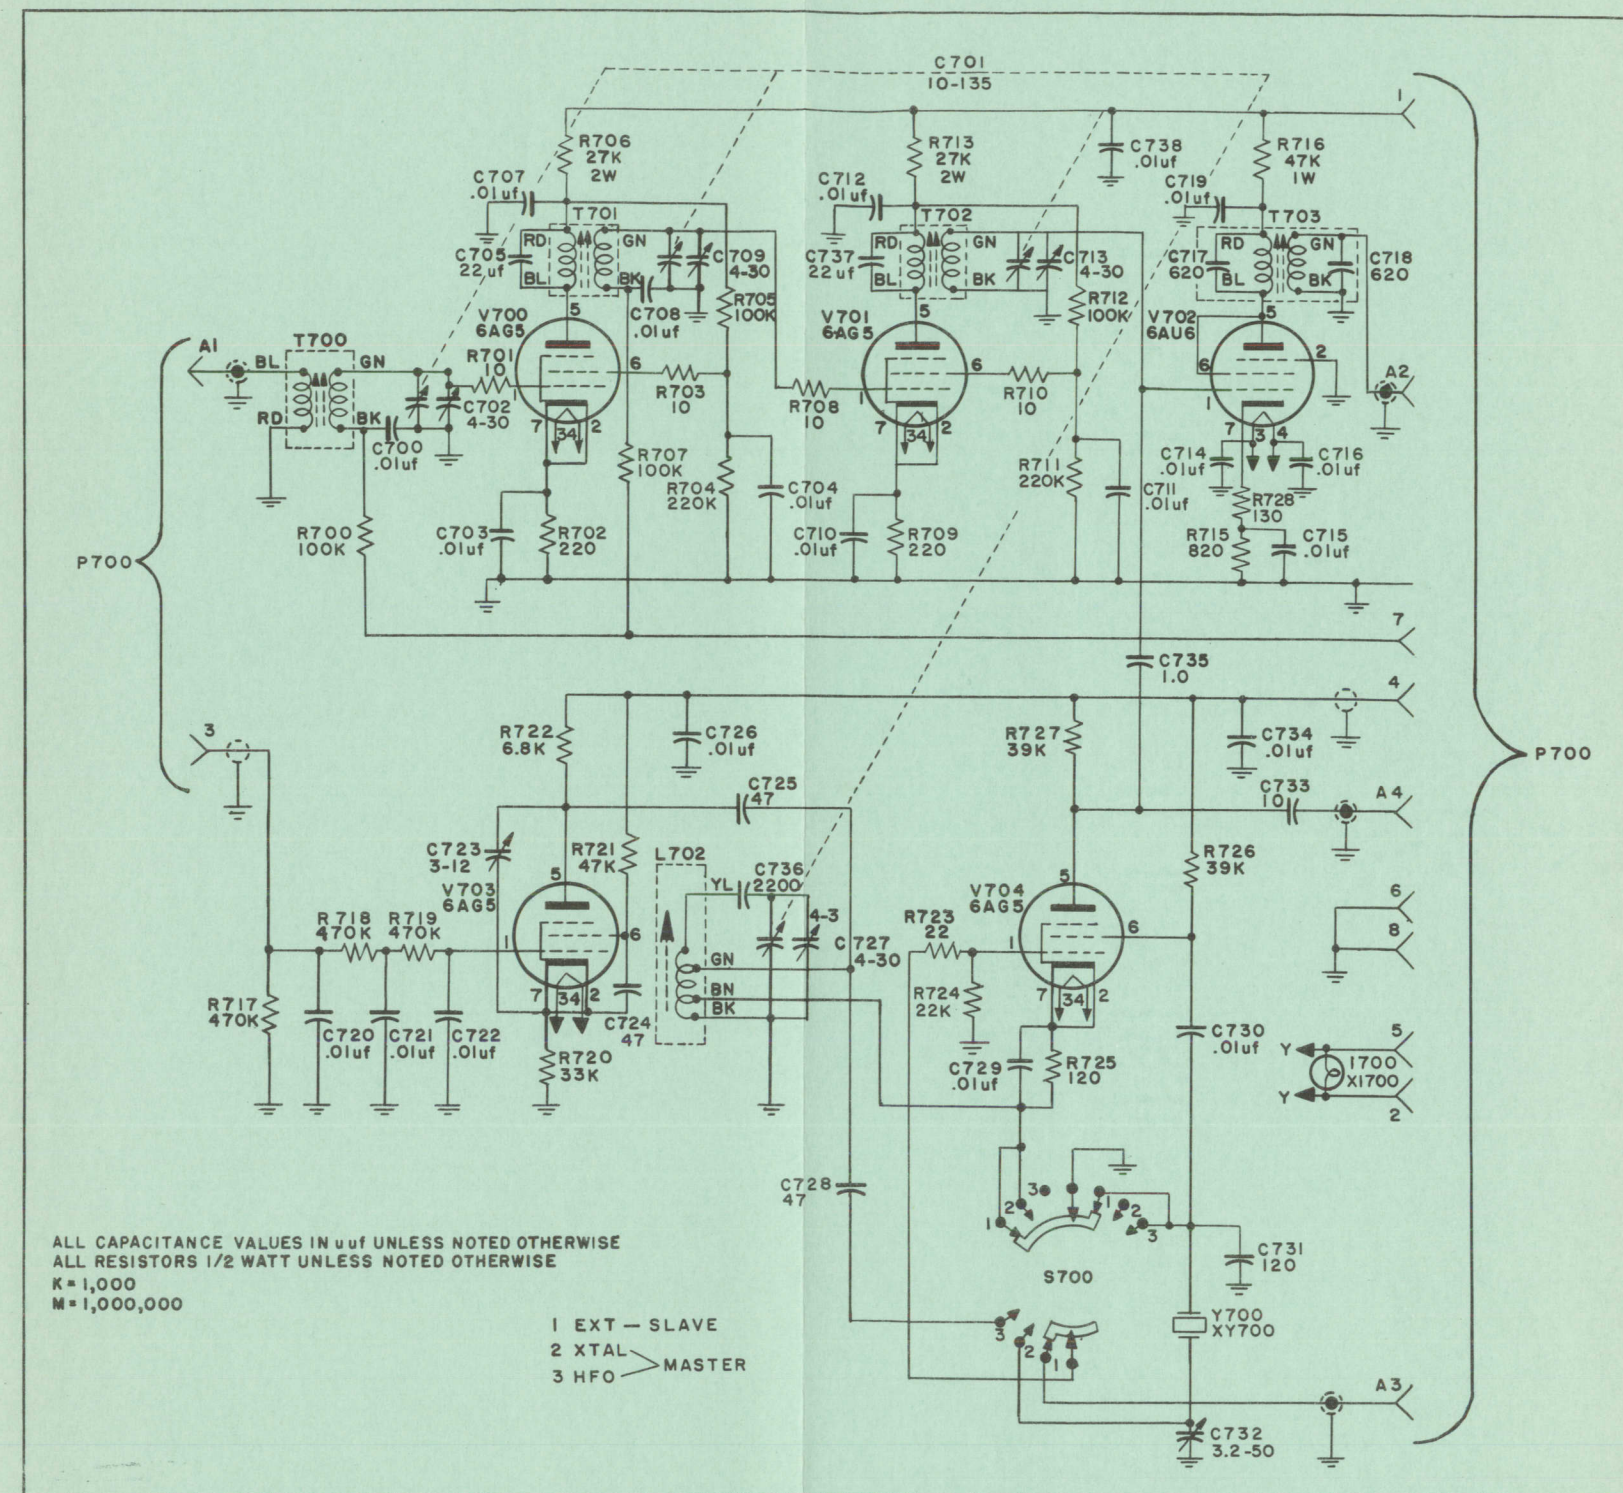

Figure 9 Schematic Diagram, TN-5012/FRR-502
- Figure 9 Schematic Diagram, TN-5012/FRR-502